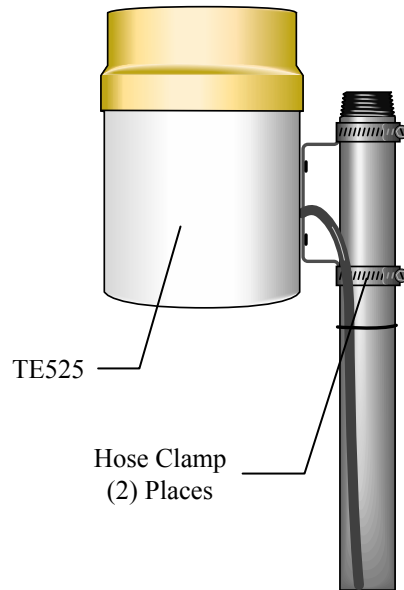

FIGURE 4.10-1. TE525 Texas Electronics Rain Gage
1. Mount the rain gage to a vertical pipe as shown in Figure 4.10-1. Mounting the gage directly to the tripod or tower is not recommended.